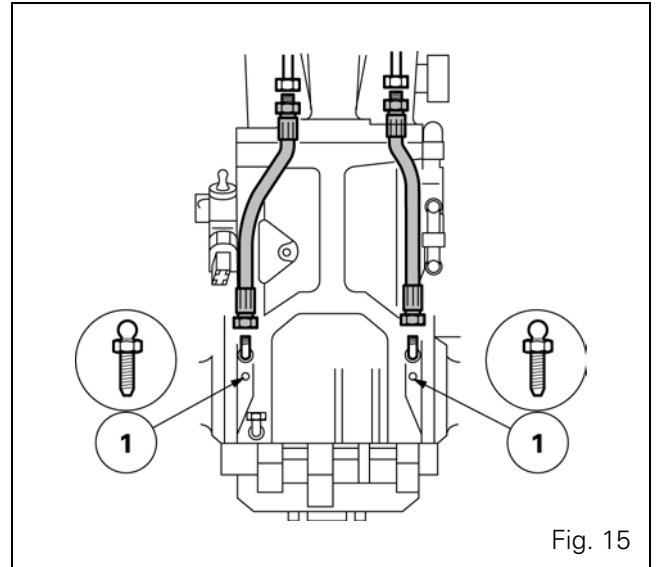

Fig. 15
8. Connect a transparent pipe to the right- and left-hand bleed screws (1) (Fig. 15) of the centre housing.